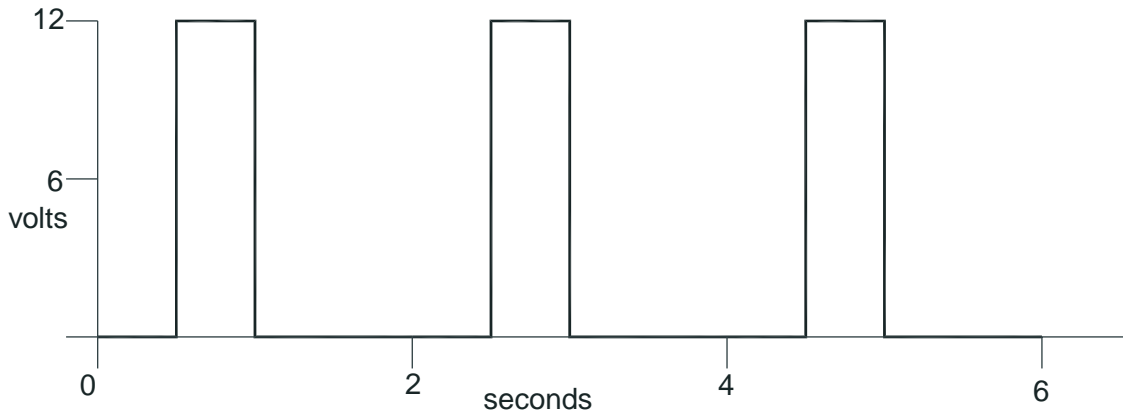

Fig. 7
- 3 (a) A circuit is being developed to vary the delay between sweeps of car windscreen wipers. The circuit will allow the wipers to operate every few seconds depending on the level of rain falling. The graph in Fig. 7 shows a suitable output pulse with a frequency of 0.5 Hz.